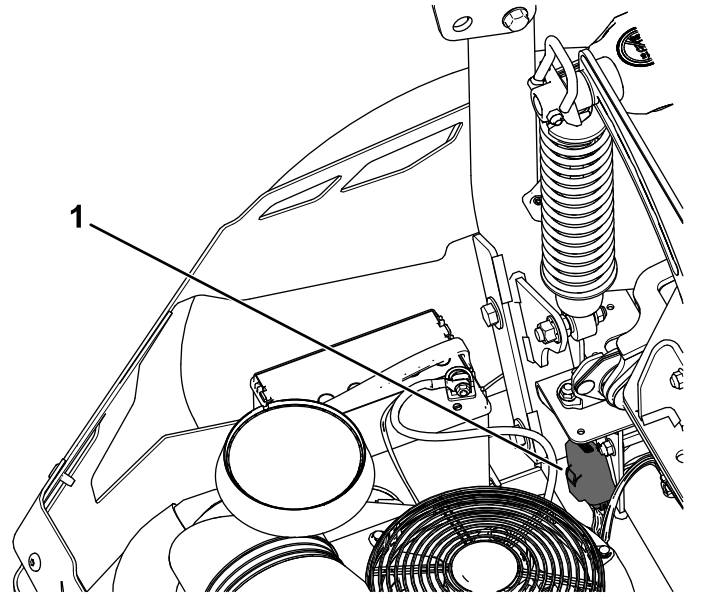

Figure 59
The fuses are located in the rear, near the engine (Figure 59).
2. Install a new fuse (Figure 59).